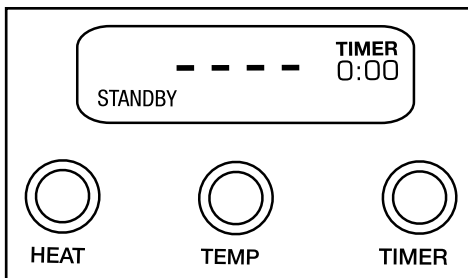

Figure 1
- 120, 208 and 240 volt units are supplied with a molded 3-prong grounding-type plug and should be used in combination with a properly connected grounding-type outlet, as shown in Figure 1.
NOTE: The Induction Range requires induction-ready cookware. If the pan is not induction ready, it will not register on the induction range. The LCD display will show “-----” and “STANDBY” will flash (as seen in figure 1) when attempting to select a heat mode without an induction-ready